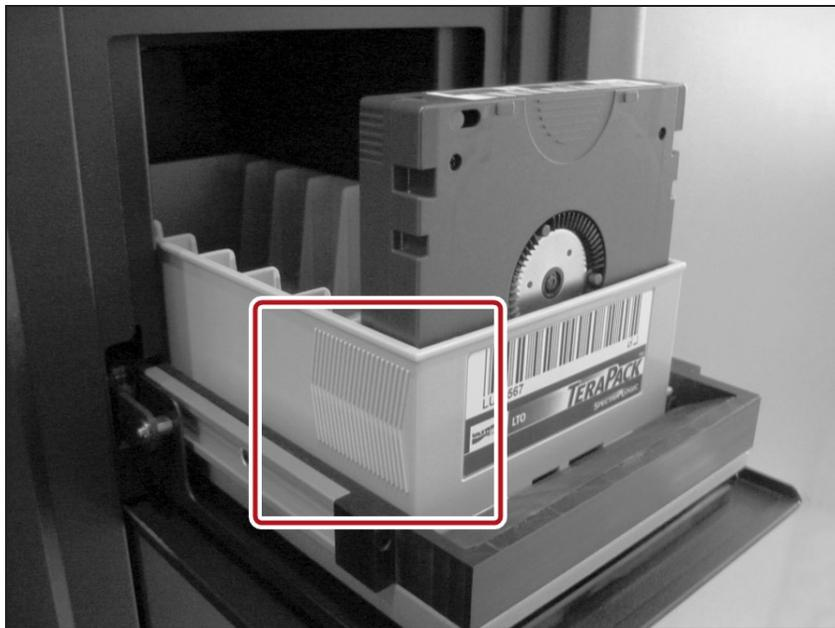

Figure 244 Insert a magazine into the TAP, making sure that it is correctly oriented.
- a. Insert a magazine into the tray on the open TAP, making sure that it is oriented with the textured surface on each side toward the outside of the library, as shown in Step Figure 244 on page 333.